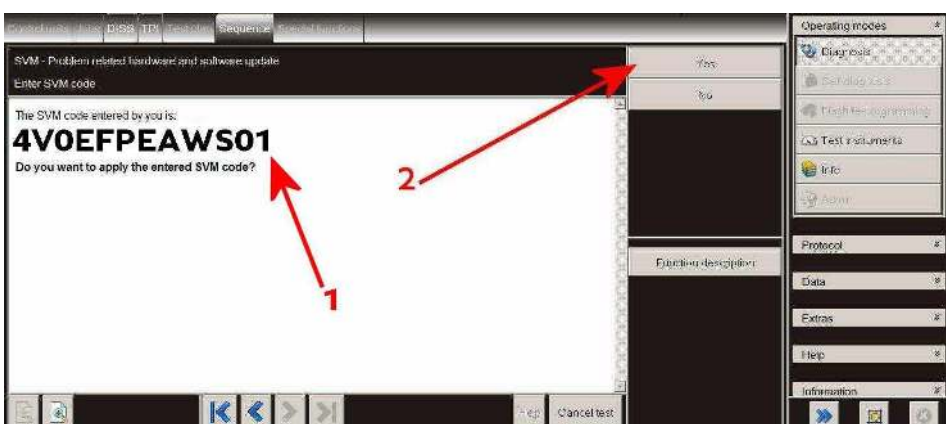

Figure 4
6. Referring to Figure 4, Check you have entered the correct SVM code (1) and select Yes (2) and follow all on screen prompts